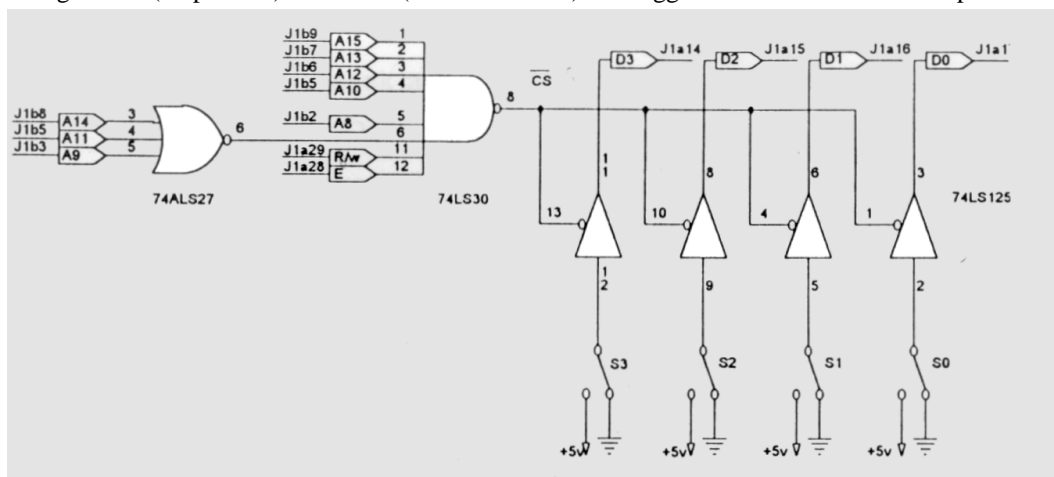

Figure 7.2 – Input to a microprocessor unit
Inputs of the address decoding circuit are connected to the address bus and necessary control outputs (such as R/W, E, ...) and outputs of this circuit are connected to chip select lines (CS) of each peripheral device. 74ALS27 (NOR Gate) and 74LS30 (NAND Gate) in Figure 7.2 are used for address decoding circuit (chip select). 74LS125 (Tri-state buffer) and toggle switches are used for input.
In Figure 7.2  $\overline{CS}$  output is reset to Logic “0” only when: